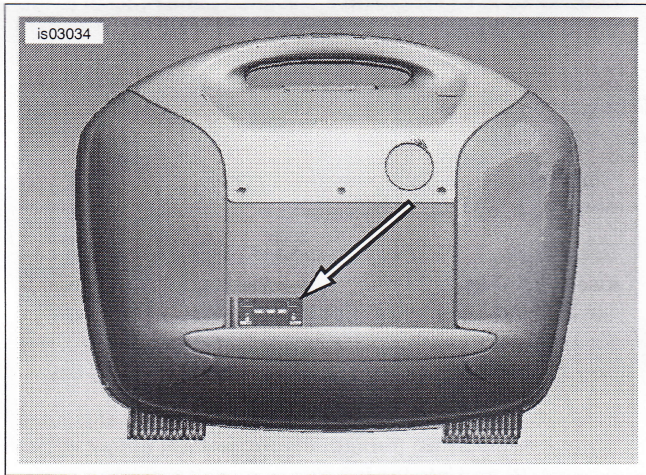
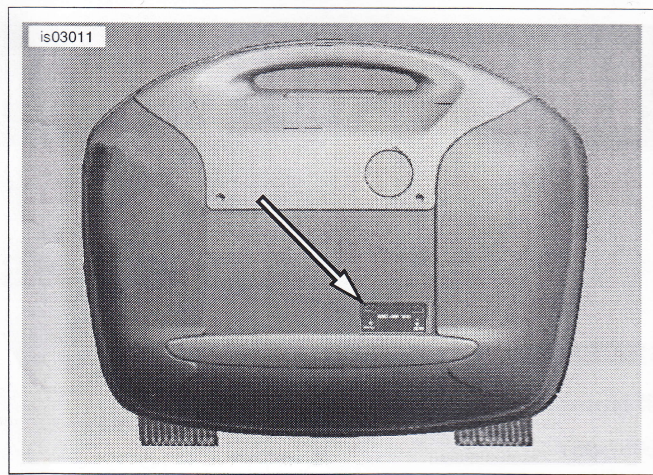

Figure 2. Left Side Case Reflector Mounting Location
Figure 3. Right Side Case Reflector Mounting Location
1. See Figure 2 and Figure 3. Using isopropyl alcohol, clean the surface of the sidecase where the reflector will be mounted.
2. Remove the adhesive backing from the left side reflector and install per Figure 2 with orientation arrow on the reflector pointing up. Hold reflector firmly against saddlebag for 10-15 seconds.
3. Remove the adhesive backing from the right side reflector and install per Figure 3 with orientation arrow on the reflector pointing up. Hold reflector firmly against saddlebag for 10-15 seconds.